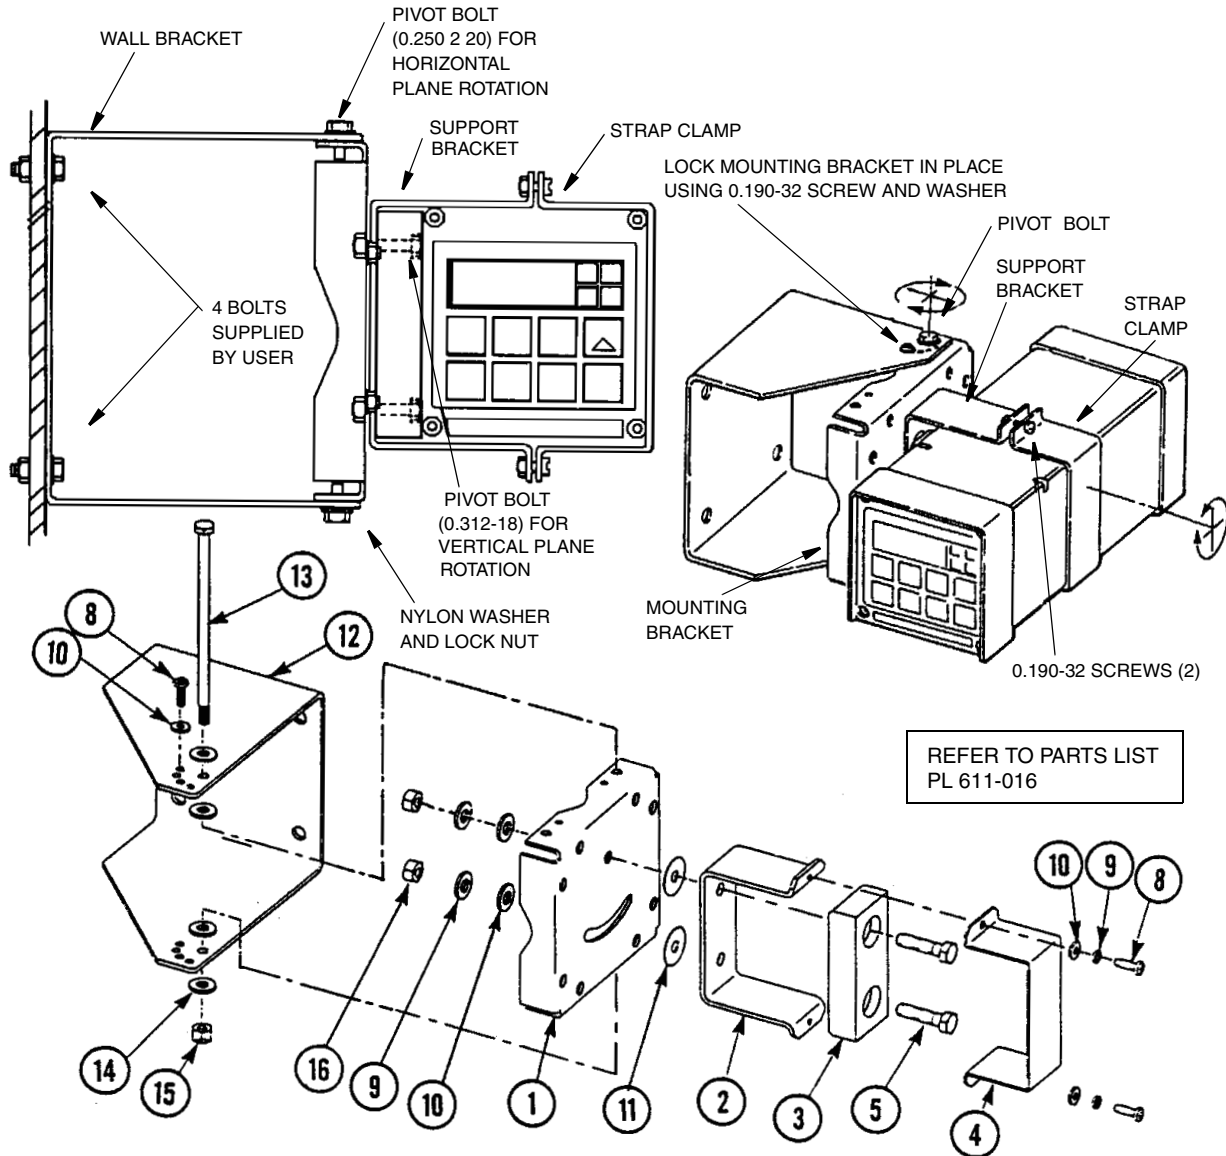

Figure 7. Metal Enclosure - Movable Mount
2. Referring to Figure 7, use wall bracket (12) as template for drilling four holes into mounting surface. Notice that the holes in the wall bracket are 9.53 mm (0.375 in) in diameter.
3. Attach wall bracket (12) to surface using four user-supplied bolts, washers, and nuts.
- a. Place hex bolts (5) through spacer (3) into support bracket (2).
- b. Slide nylon washers (11) over bolts (5).
- c. Slide bolts through universal mounting bracket (1) and fasten assembly finger tight with hardware designated 9, 10, and 16.
5. Slide analyzer into support bracket and slide strap clamp (4) onto analyzer. Using two screws, nuts, and washers, attach strap clamp to support bracket to secure analyzer.
6. Lift entire assembly of Step 5, align mounting bracket and wall bracket pivot bolt holes, and then insert pivot bolt (13) through wall and mounting bracket into nylon washer and locking nut (14,15).